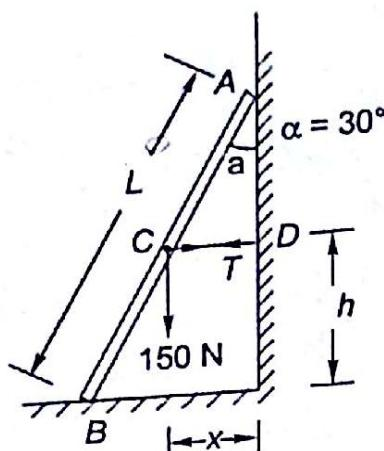

Fig. 9.31
- 9.10** A uniform ladder of length L and weight 150 N, rests on a smooth floor at B and against a smooth vertical wall at A as shown in Fig. 9.31. A horizontal rope CD prevents the ladder from slipping. Rope is connected